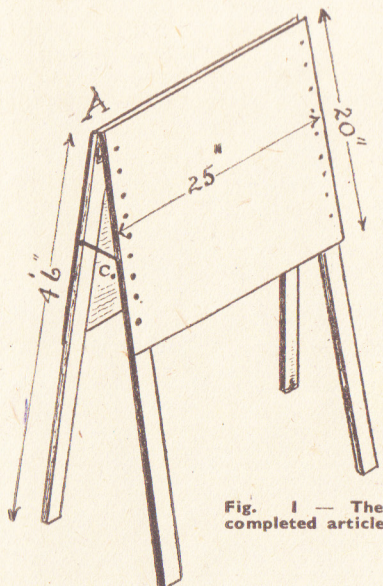
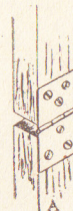

Fig. 1 — The completed article
Fig. 2 — The hinge fitting
You should begin by making the legs from the four battens. Mark these out, saw to required length, plane up the faces, and test them with the try-square. Then fix the two 1in. hinges in position to make two pairs of joined battens, as seen at (A) in the diagram. The perspective view in Fig. 1 shows how easily this can be done, whilst a detail of the hinge is given at Fig. 2.